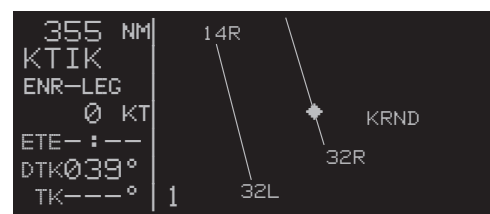

Figure 3-124
- While taxiing on the airport or flying in the traffic pattern, select the 1 NM or 2 NM scale to display the airport runway diagram instead of the usual airport diamond symbol. All runway designations are shown on the 1 NM scales (figure 3-124). If the 2 NM scale is selected, then the runway designations are shown only for the longest runway. If your KLN 900 is not provided a heading input you may wish to select a North up display while the aircraft is on the airport since an actual track up graphics presentation can only be displayed when the aircraft is moving at least 2 knots.